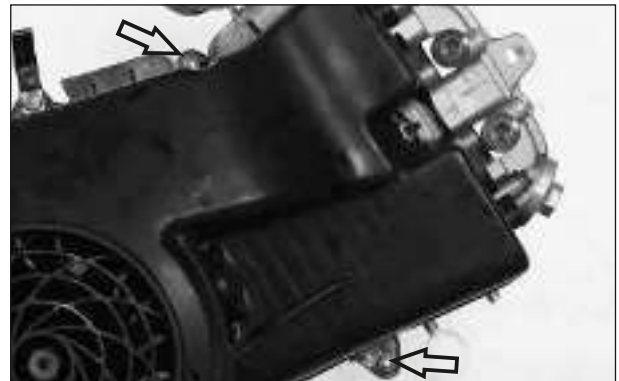

Fig. 3.37
- Loosen and remove 2 nos. hexagonal flange bolt M6X20 and separate the cowl RH.( Fig. 3.37)